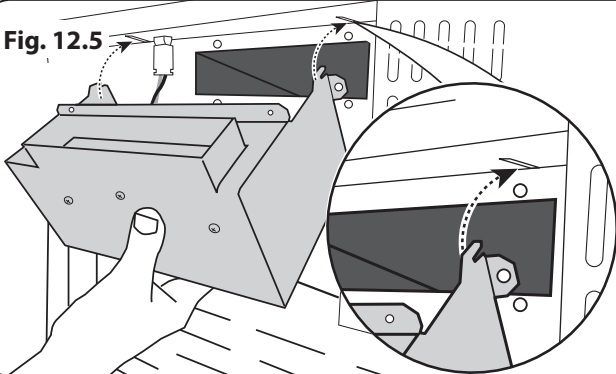

Fig. 12.6
4. Replace the six screws **Fig. 12.6**.